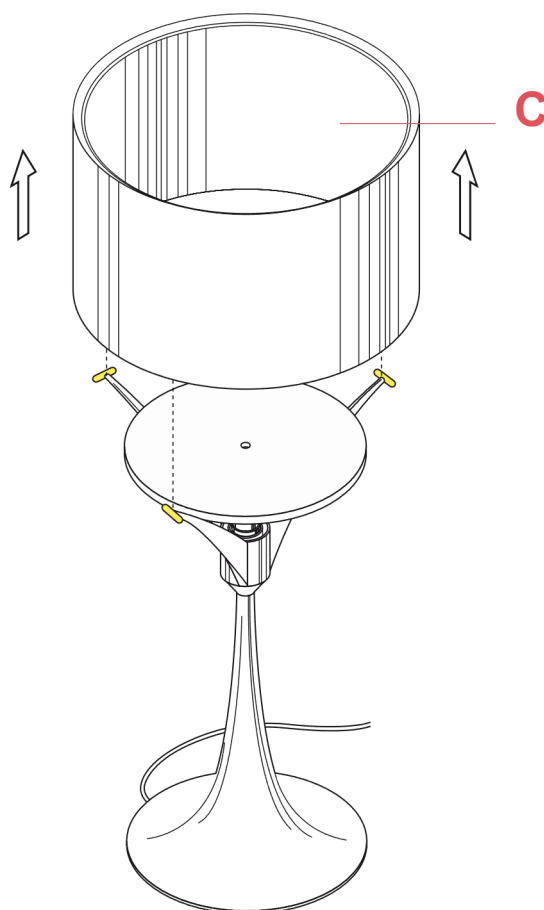

Fig.1
Place the diffuser (C) on the lamp body.(Fig.1 page 10)